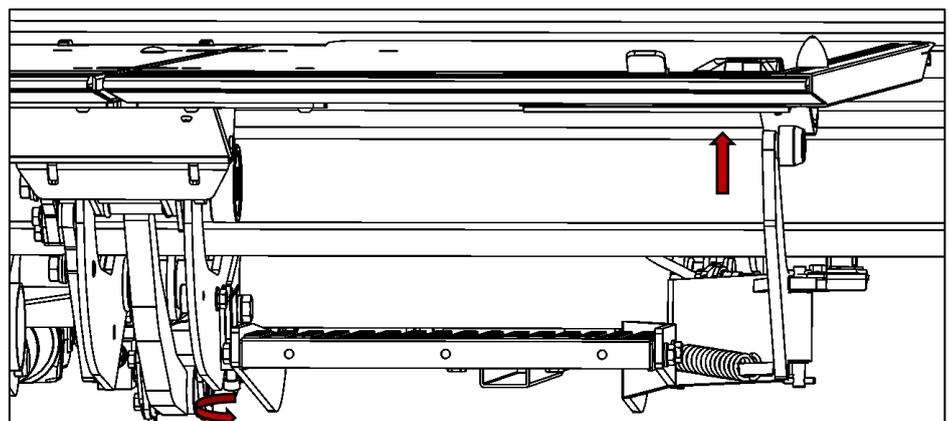

Figure 76
- Rotating the adjustment screw (1) to the right lifts the support arm (4).
- Rotating the adjustment screw (1) to the left lowers the support arm (4) (see Fig. 76).
- When finished adjusting, tighten the bolt (3) for securing the torsion bar to 115 Nm (refer to torque table on page 65).